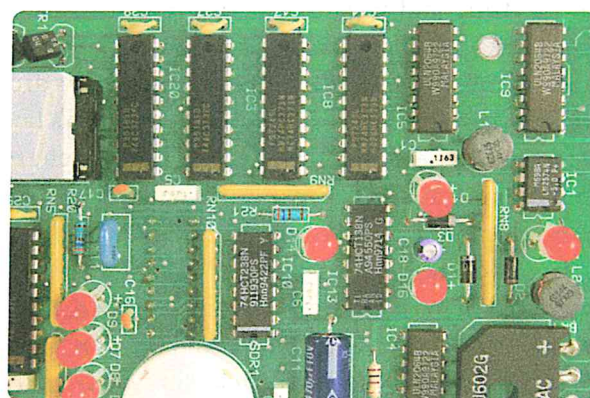

Figure 2-11. A multilayer printed circuit board with LED's, microprocessors and various other components and traces mounted on both sides of the board.
A through-hole via (1) consists of a conductive tube and two pads at each end of the barrel connected to the circuit trace. High density boards may have blind vias (2) that are exposed to only one side of the board, or buried vias (3) that connect internal layers without being exposed to either surface. Thermal vias are used to carry heat away from power devices and are typically arranged in an array. Multi-layer PCBs are designed by computer software programs due to their complexity and requirements for extremely precise registration of circuit traces between the various layers. Very complex circuits are possible with the attachment of all types of electronic devices, including resistors, transistors, and integrated circuits in dual-in line and BGA packages, and microprocessors in BGA packages. [Figure 2-11]